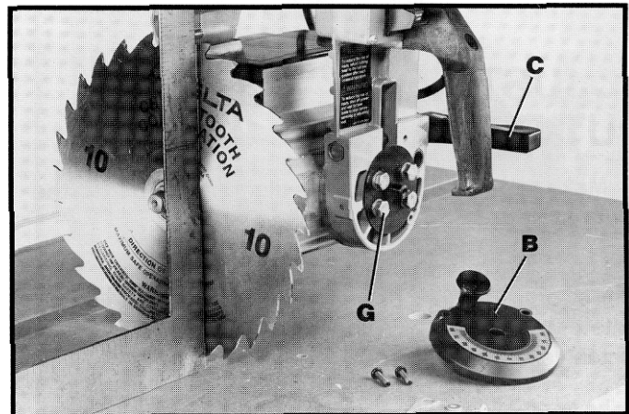

Fig. 49
7. Loosen four hex head screws (G) Fig. 49. Tilt the motor until the saw blade is flush with the square. Tighten four hex head screws (G).
8. Replace bevel scale plate (B) Fig. 49, with index knob, two screws and pointer that were removed in **STEP 6**. **NOTE:** Adjust pointer to "zero" on the bevel index scale.